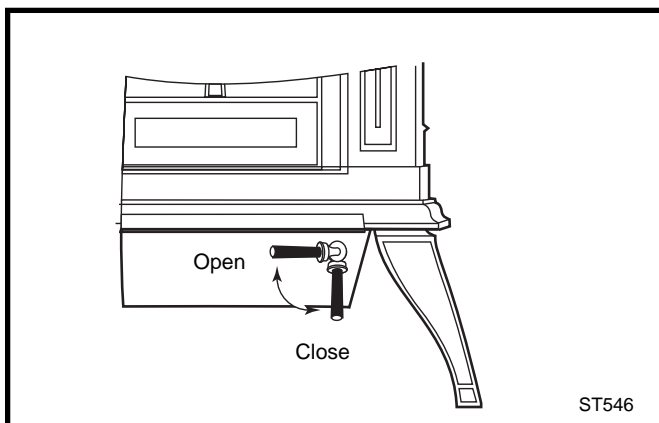

Fig. 30 Turn the ashdoor handle clockwise to open and counterclockwise to close.
- Close the griddle or doors, and unlatch the ash door. (Fig. 30) It will pivot, swinging the ash pan out of the stove.